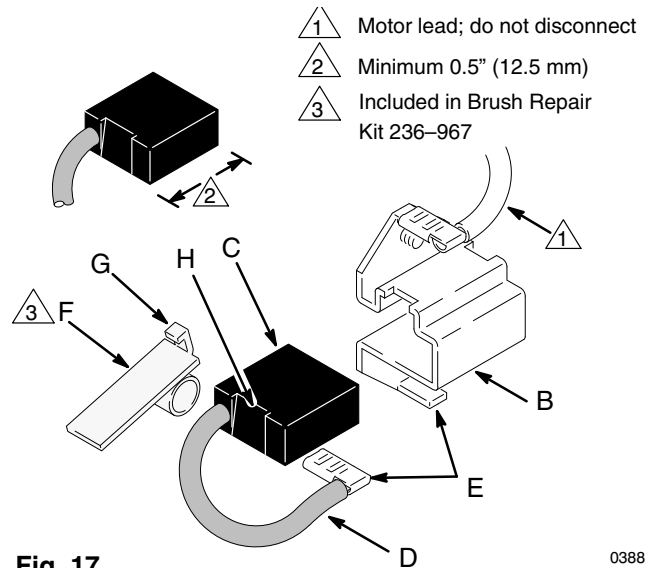

Fig. 17 03881
2. Push in the spring clip (F) and release its hook (G) from the brush holder (B). Pull out the spring clip. See Fig 17.
3. Slide off the brush lead terminal (E) off the blade connector. Remove the old brush (C). See Fig 17.